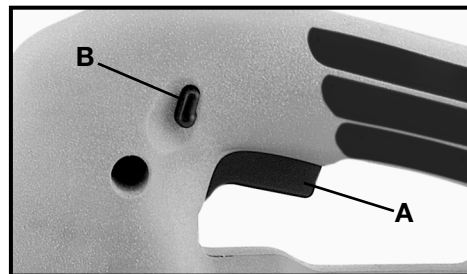

Fig. 5
1. Squeeze trigger switch (A), Fig. 5, to start motor. Release trigger to stop motor.
2. Lock-Out Button – A lock-out button (B), Fig. 5, is provided to prevent unintentional starting. To lock the switch trigger “OFF”, push the button to the right.